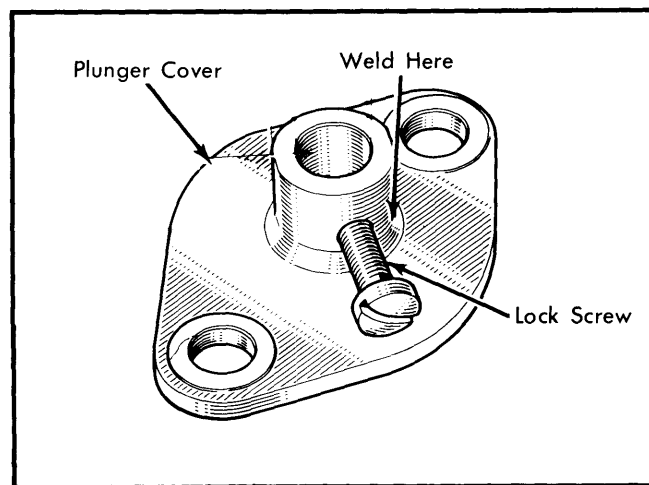

Fig. 6 Tool for Rack Play Measurement
2) Grease plunger, spring and washers, and replace in housing. Fabricate a dial indicator bracket using a spare plunger cover. Drill a hole in the center and weld on a flange to hold indicator outer shaft. See Fig. 6.